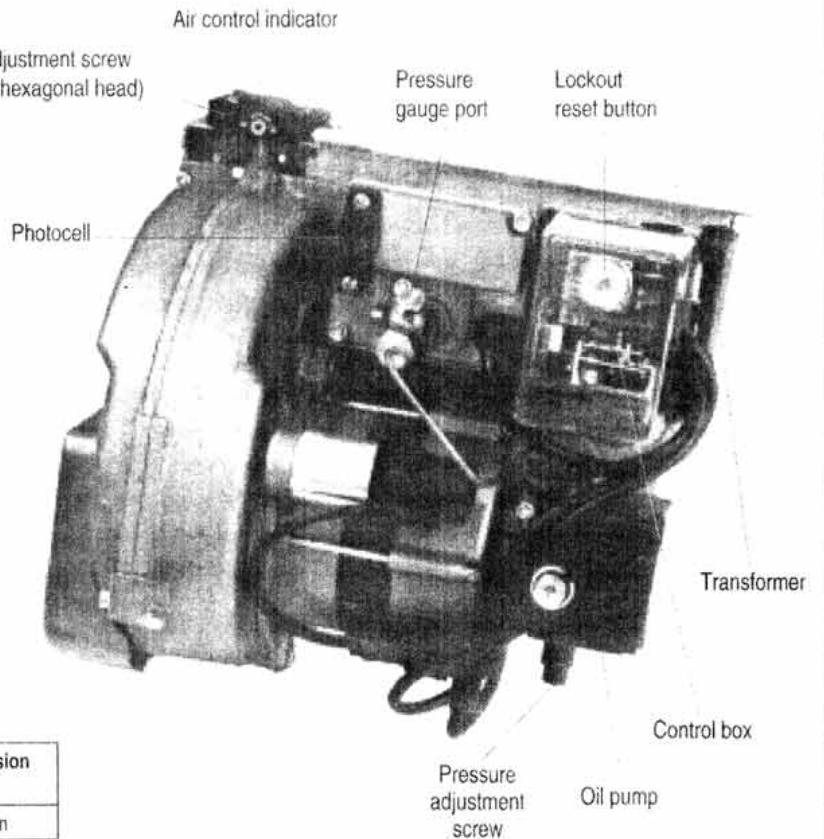

**Fig. 23. Electro Oil Inter B11 Burner.
12.7 Fit a pressure gauge and manifold to the burner pump at the point indicated in Fig. 9, or the pressure gauge port shown in Fig. 23 on the 20/25.
Note: In order that after-spurting is reduced to a minimum during the commissioning period it is recommended that a pressure gauge only is fitted on the external pressure gauge port on the Electro Oil B11 (See Fig. 23). Use of a "T" piece pressure gauge manifold will increase the oil line volume and hence increase the degree of after-spurting.